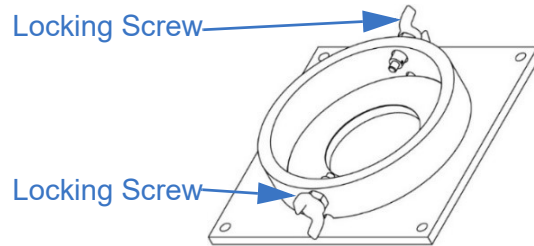

Figure 6-1 Locking Screws (P/N: 5074601 Shown)
1. Loosen the locking screws (Figure 6-1) on the base plate approximately one turn.